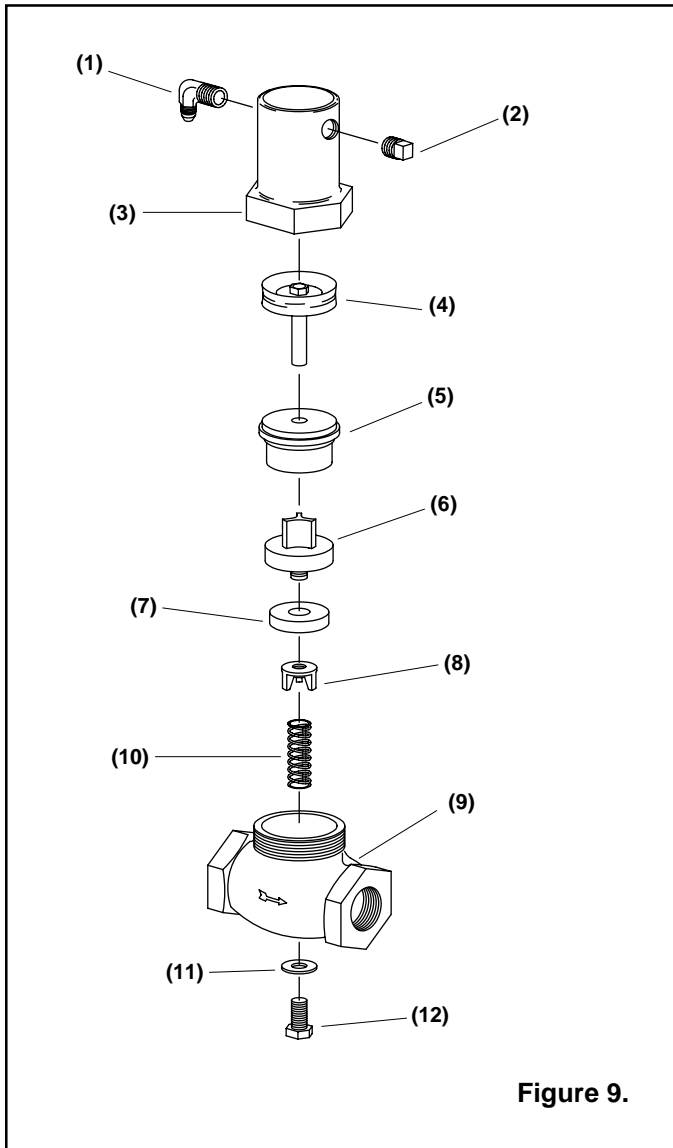

Figure 9.
**7.7 1" Piston Outlet Valve Figure 9**